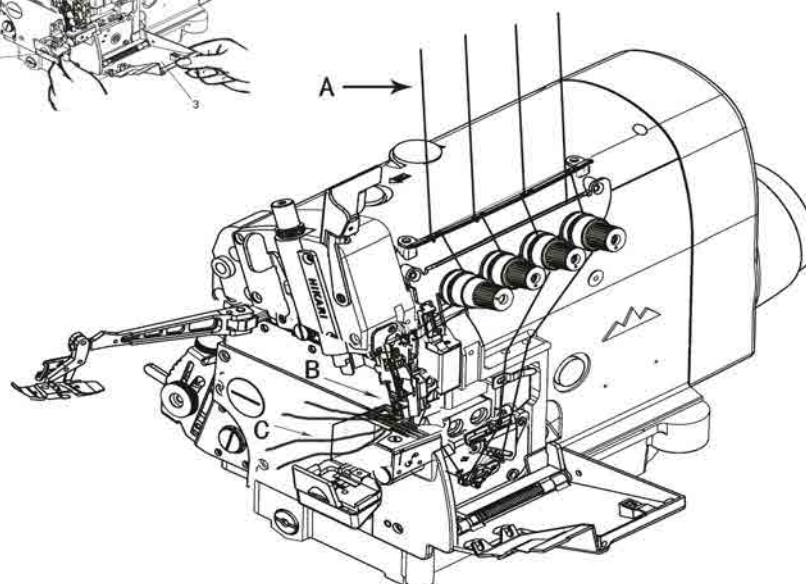

Fig. 14
2. In case the machine is threaded previously (Fig.14)